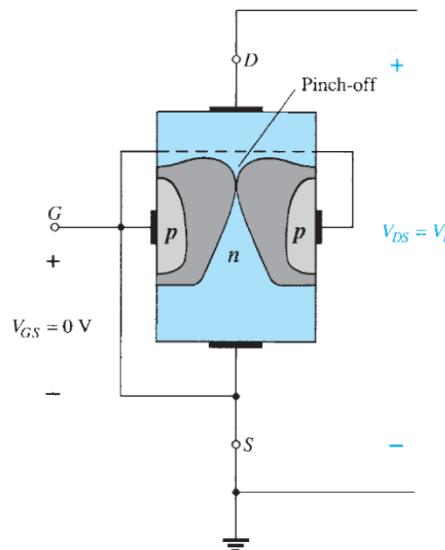
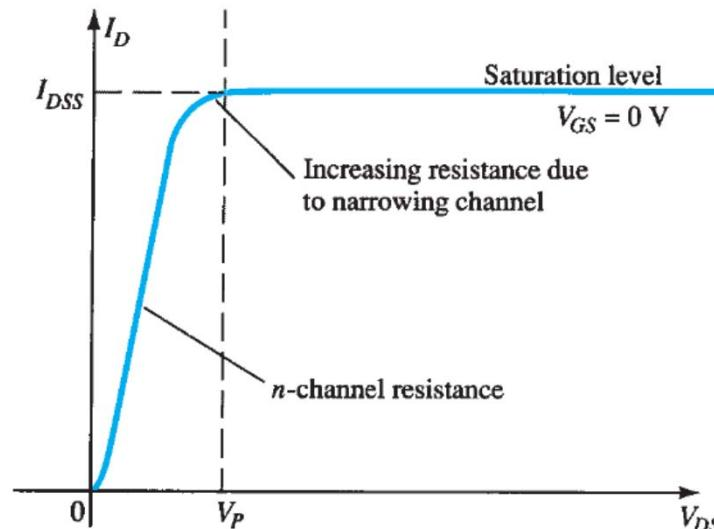

FIG. 6.8
FIG. 6.7
- If V_{DS} is increased to a level where it appears that the two depletion regions would “touch” as shown in Fig. 6.8 , a condition referred to as pinch-off will result. The level of V_{DS} that establishes this condition is referred to as the pinch-off voltage and is denoted by V_P , as shown in Fig. 6.7 .